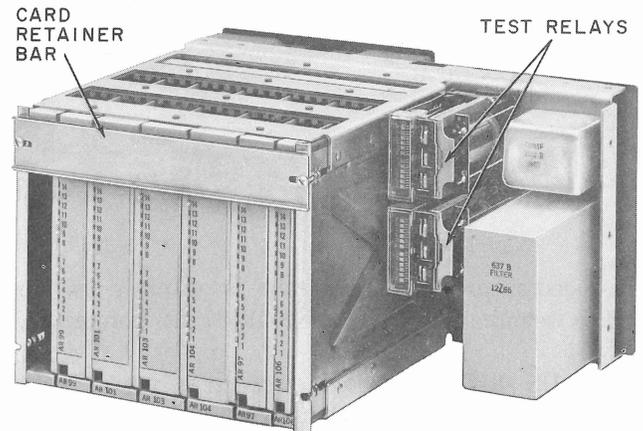

Fig. 1—Data Set 404B1—Front View
2.01 Data Set 404B1 (Fig. 1 and 2) consists of a single nest with slots to accept six circuit packs. Two wire-spring relays, a 637B filter, and